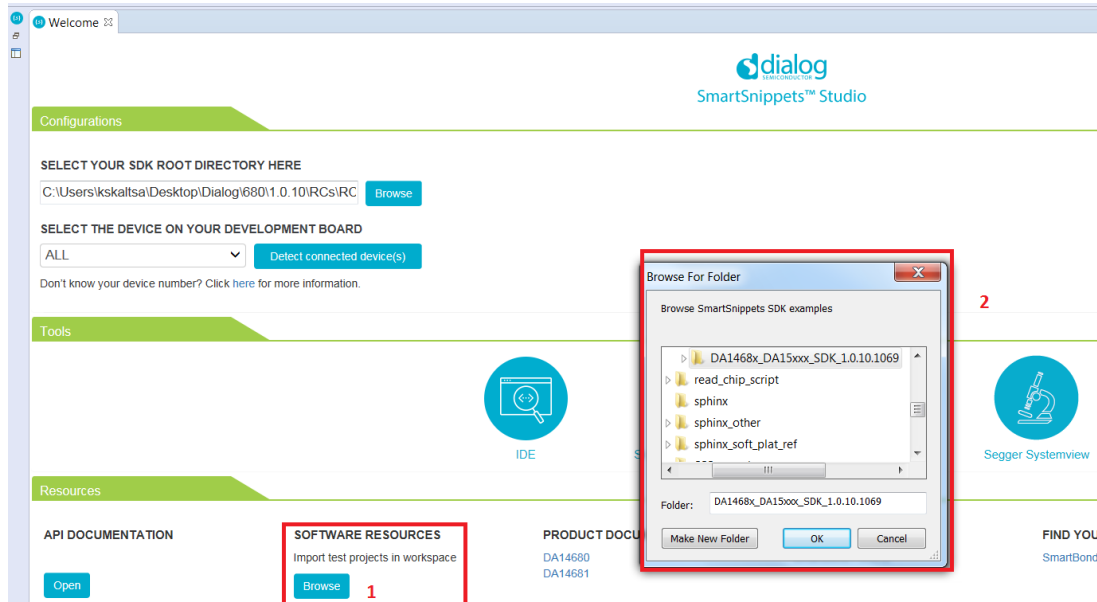

Figure 35: Project import
2. Import the template project `template_freertos_retarget` from: `<sdk_root directory>\projects\dk_apps\templates\freertos_retarget` into the selected workspace. Press the **browse** button highlighted in the Resources tab (reference 1) and navigate to the folder which contains the specific project as shown in Figure 35.